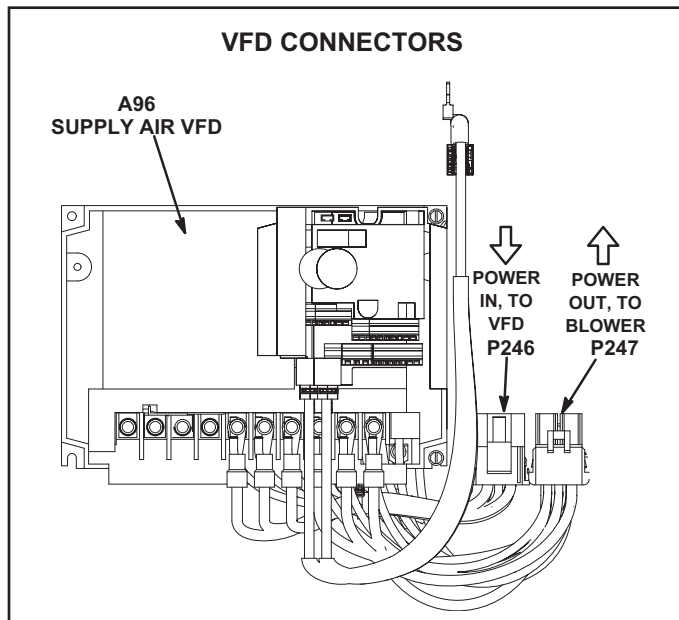

FIGURE 48
- 2 - Locate P246 and P247 connectors near the VFD. See FIGURE 48.